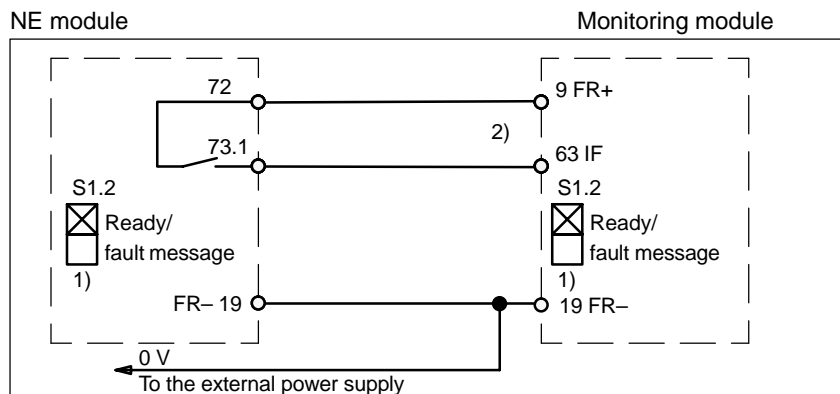

Fig. 9-6 Instantaneous shutdown, pulse enable
- Instantaneous pulse enable withdrawal —> refer to Fig. 9-6